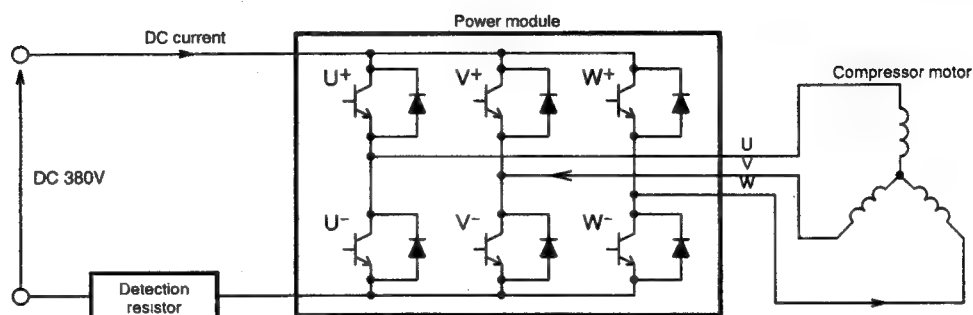

Fig. 9-9
- (1) Turns on the power module's U⁺ and V⁻ transistors so the current flows to the motor windings as shown in Fig. 9-9.